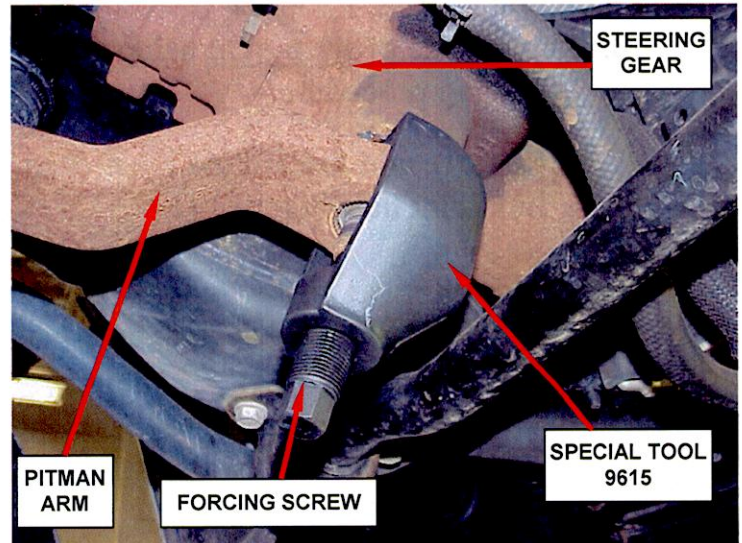

Figure 15 - Special Tool 9615
- d. Install pitman arm puller (Special Tool 9615) onto the steering gear output shaft (Figure 15).
- e. Tighten the pitman arm puller forcing screw until the pitman arm separates from the steering gear output shaft (Figure 15).